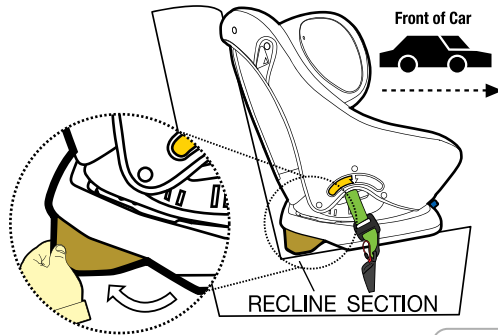

Figure 1
**Step 2:** Swing the Recline Section rearward (refer Figure 1).